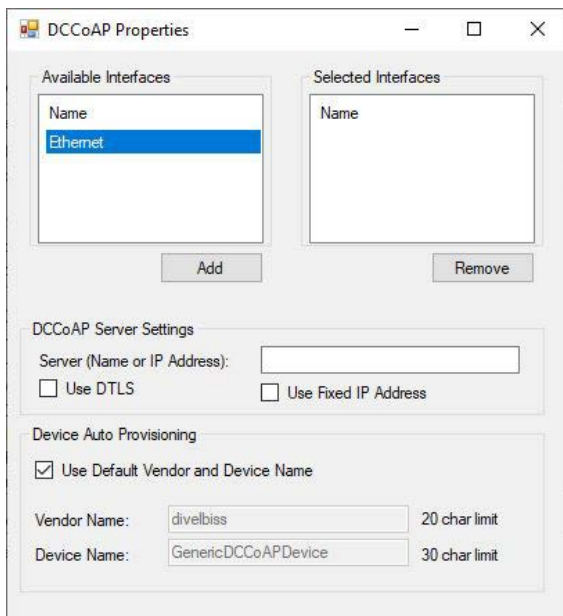

Figure 30-3
5. Click **OK**. The *DCCoAP Properties* dialog will open. This dialog is used to configure the DCCoAP communications settings (what the DCCoAP_CLOUD function block uses). Refer to Figure 30-3. The first section of this dialog is divided into two panes: **Selected Interfaces** and **Available Interfaces**.